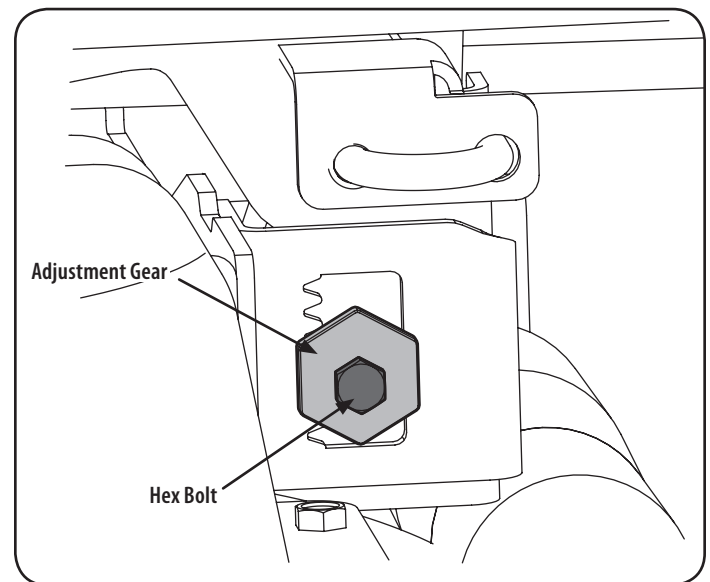

Figure 26
3. Loosen, but do NOT remove, the hex bolt on the rear left deck hanger link. See Figure 26.
4. Using a wrench, raise or lower the left side of the deck by turning the adjustment gear. See Figure 26.